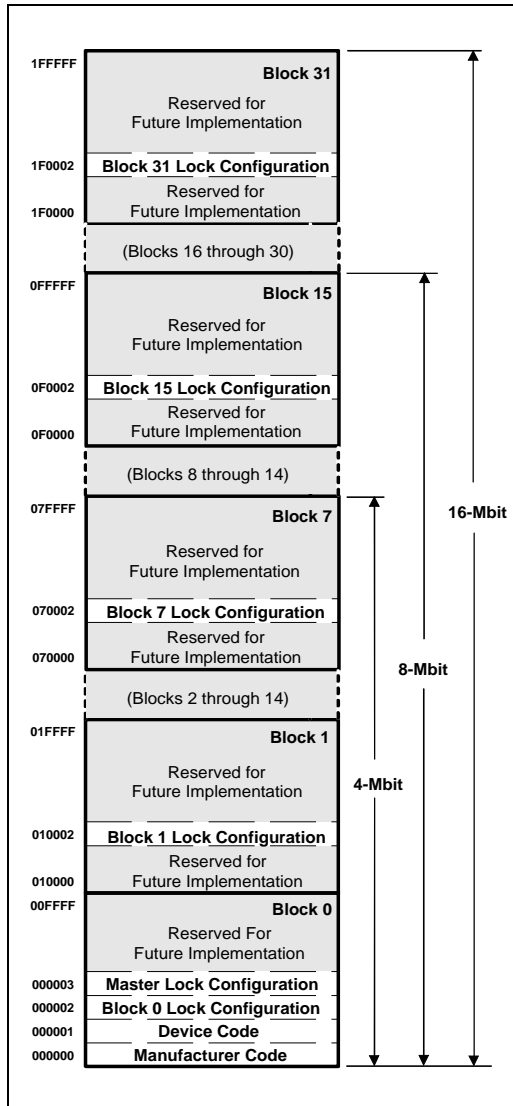

Figure 5. Device Identifier Code Memory Map
The read identifier codes operation outputs the manufacturer code, device code, block lock configuration codes for each block, and master lock configuration code (see Figure 5). Using the manufacturer and device codes, the system software can automatically match the device with its proper algorithms. The block lock and master lock configuration codes identify locked and unlocked blocks and master lock-bit setting.
IA = Identifier Code Address: see Figure 5.
The identifier code operation is initiated by writing the Read Identifier Codes command. Following the command write, read cycles from addresses shown in Figure 5 retrieve the manufacturer, device, block lock configuration and master lock configuration codes (see Table 4 for identifier code values). To terminate the operation, write another valid command. Like the Read Array command, the Read Identifier Codes command functions independently of the V_{PP} voltage and RP# can be V_{IH} or V_{HH} . Following the Read Identifier Codes command, the subsequent information can be read.
1. X selects the specific block lock configuration code to be read. See Figure 5 for the *Device Identifier Code Memory Map*.